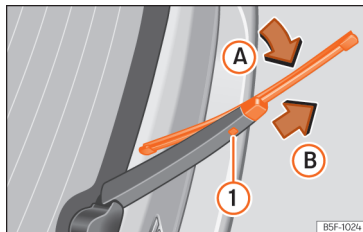

Fig. 194 Changing the rear wiper blade
- Rotate the blade lightly >>> Fig. 194 (arrow A).
- Hold down the release button ① while gently pulling the blade in the direction of arrow B.
- Insert a new blade of the **same length and type** in the rear wiper arm in the opposite direction to the arrow B until button ① hooks into place.